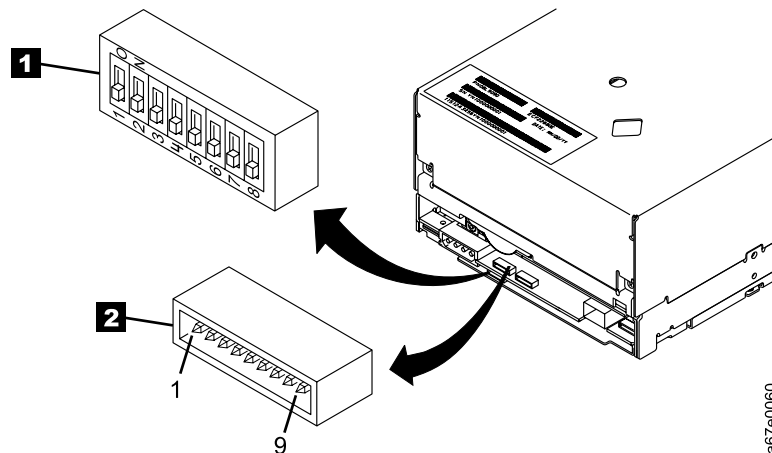

Figure 6. Setting the Loop ID and the AL_PA. The feature switches are located on the bottom of the drive.
If Feature Switch 3 on the Ultrium 2 Tape Drive is set to OFF (see **1** in Figure 6), the LID/status connector **2** has the following definition:
2. Locate the LID/status connector on the drive (see **2** in Figure 6).
If Feature Switch 3 on the Ultrium 2 Tape Drive is set to 0N (see **1** in Figure 6 on page 20), the LID/status connector **2** has the following definition:
2. Locate the LID/status connector on the drive (see **2** in Figure 6 on page 20).